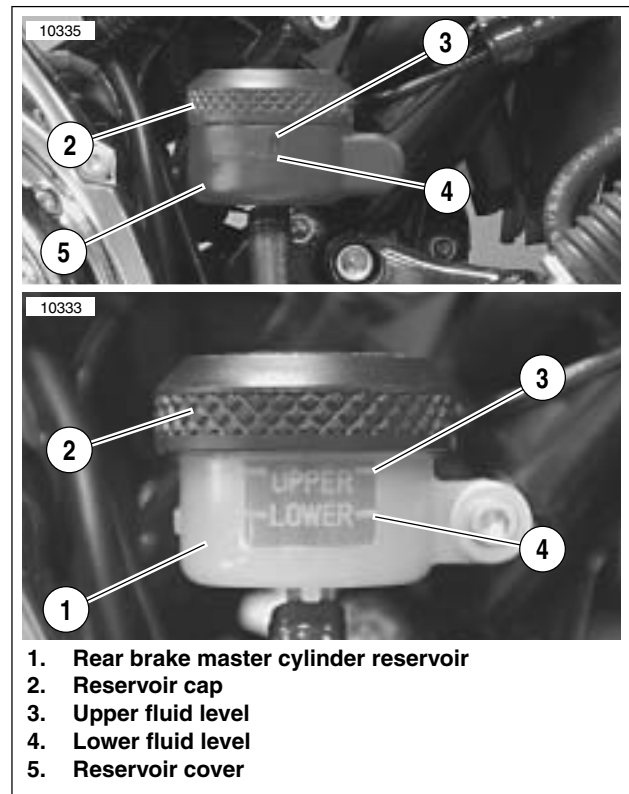
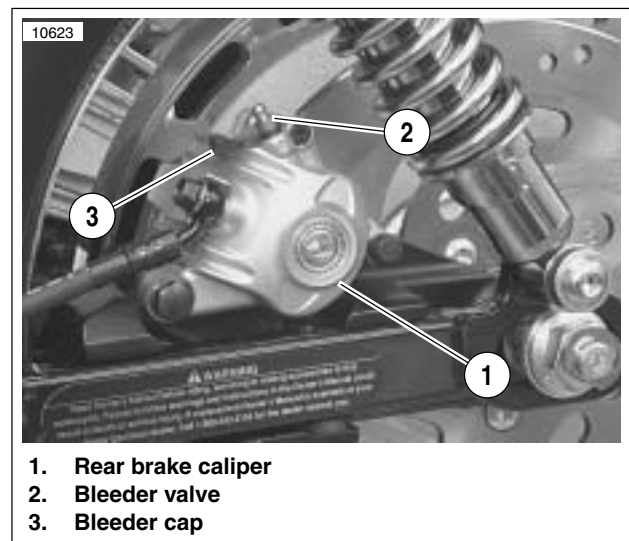

Figure 1-19. Rear Brake Master Cylinder Reservoir
Figure 1-20. Rear Brake Caliper
- See Figure 1-19. Rear brake master cylinder reservoir (1) must be in a level position when filling and checking fluid level.
- Reservoir cover (5) may be removed from rear brake master cylinder reservoir to more easily verify fluid level in reservoir.
1. Position motorcycle upright (not resting on jiffy stand). See Figure 1-19. Unscrew and remove reservoir cap (2).
2. Add Harley-Davidson D.O.T. 5 SILICONE HYDRAULIC BRAKE FLUID to master cylinder reservoir (1) until the fluid reaches the upper fluid level (3).
3. See Figure 1-20. Remove bleeder cap (3). Install end of a length of plastic tubing over caliper bleeder valve (2). Place free end of tube in a clean container.
7. See Figure 1-19. Add Harley-Davidson D.O.T. 5 SILICONE HYDRAULIC BRAKE FLUID to master cylinder reservoir (1) until the fluid reaches the upper fluid level (3).
8. Replace reservoir cap (2). Replace reservoir cover (5) if removed.